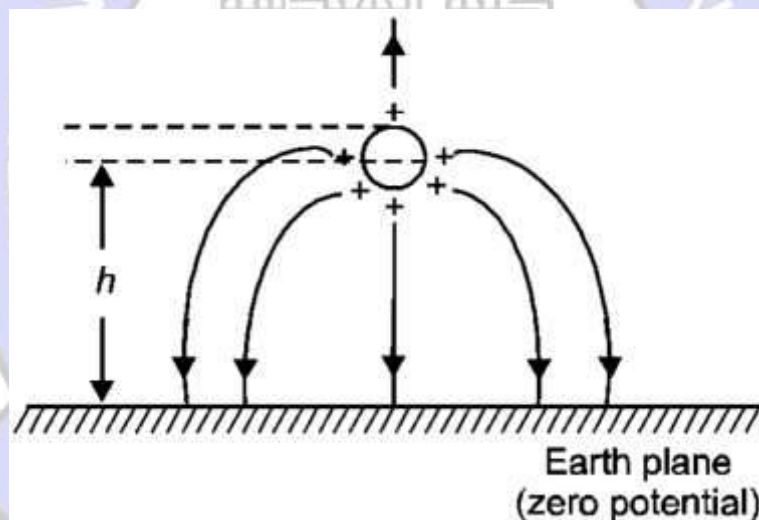

Fig. 25:
- Figure 25 shows a single conductor with uniform charge distribution and with height  $h$  above earth plane.
- The voltage between any two points above the earth is the same in figure 25 and 26.